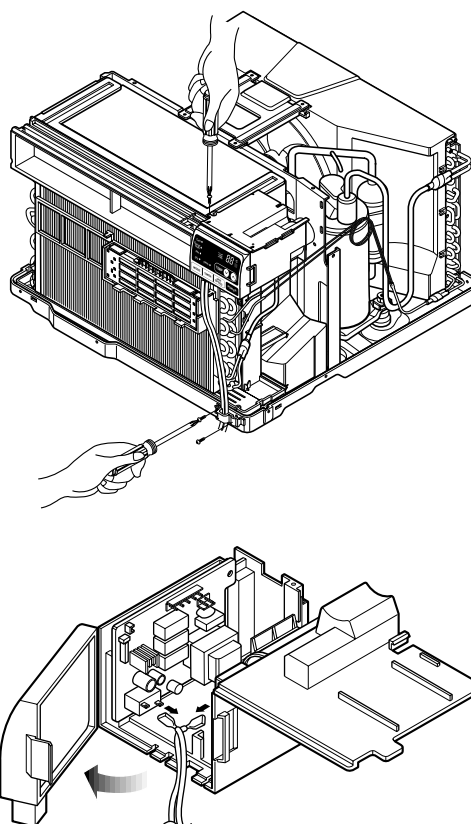

Figure 26
3. Disconnect the front panel from the control box. (See Figure 26)